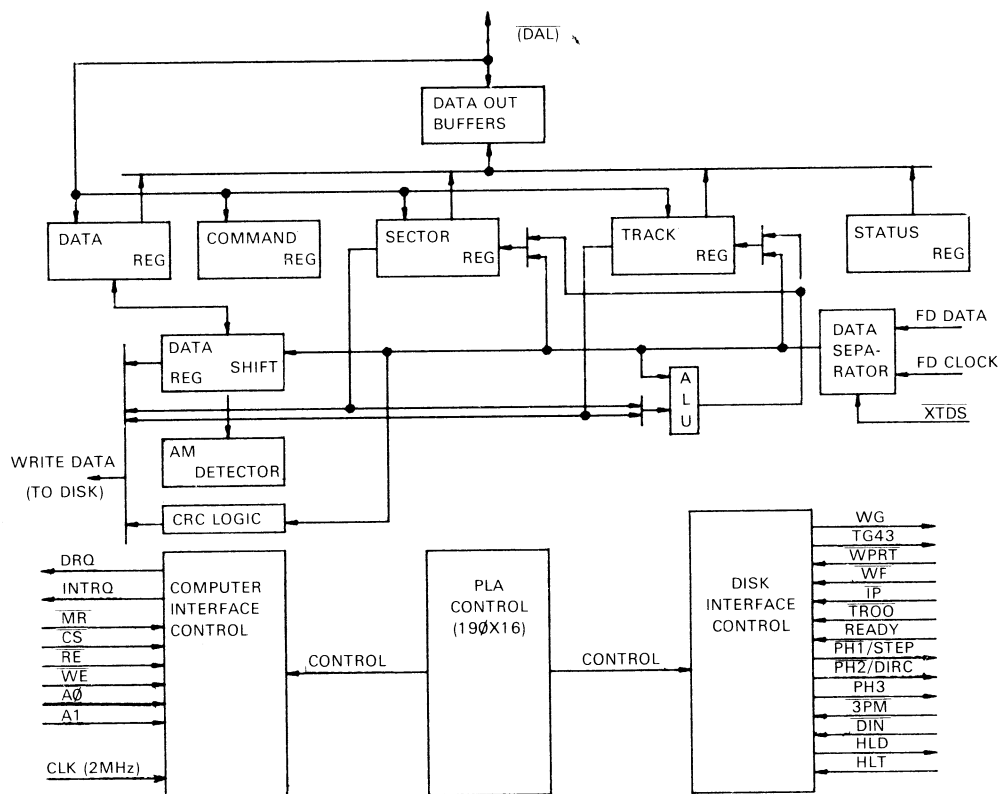

FIGURE 1-1
The FD1771 is a MOS/LSI device that performs the function of interfacing a processor to a flexible (Floppy) diskette drive. This single chip replaces nearly 80% of the required disk drive interface electronics. (See figure 1-1). It provides the data accessing controls and the bidirectional transfer of information between the processor's memory and the magnetically stored data on the diskette. The diskette data is stored in a data entry format compatible with the IBM 3740 specification (other formats may be used providing more data storage). In this format all information is recorded on tracks (radial paths) in sectors (arc sections) defined by a programmed header as shown below:
1.1 FD1771 - Flexible Drive Interface (Refer to Figure 1-1 FD1771 Block Diagram)
1.2 FD1771 – Processor Interface (See figure 1-1)